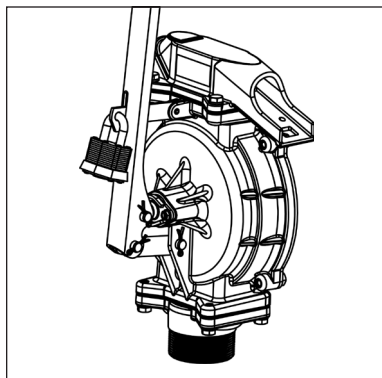

Figure 2
2. Insert a padlock through the clasp hole and lock. (Figure 2)